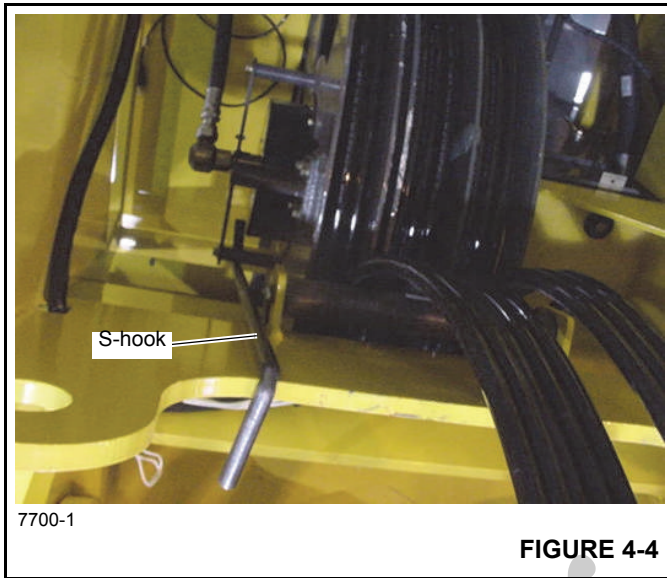

FIGURE 4-4
10. Using the S-hook, secure the spring loaded side of the hose reel in the turntable to prevent the reel from rotating before proceeding to the next step (Figure 4-4). Reach through the hole in the top of the base section and tag and disconnect the hose reel lines from the hydraulic manifold that is mounted on the rear of the center mid. Cap all lines and openings. Feed the hoses through the rollers at the rear of the base. If crane is being readied for transport, secure the hoses to the hoist.